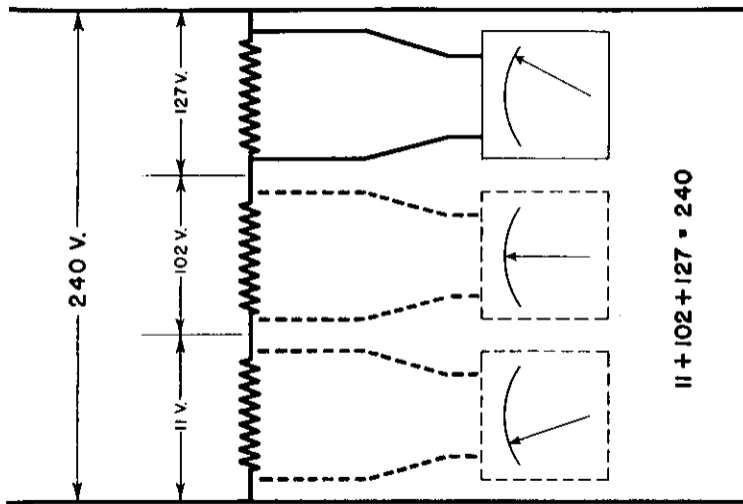

Fig. 2
**To measure voltages beyond the scale of any voltmeter,** place a series of resistors across the voltage to be measured, being careful that the combined resistors have sufficient resistance value so that they do not appreciably load the circuit, draw too much current, and thus lower the overall voltage. Now take readings across each resistor in turn. (See Figure 2.) The total of these individual readings is equal to the voltage across the line or load being measured.